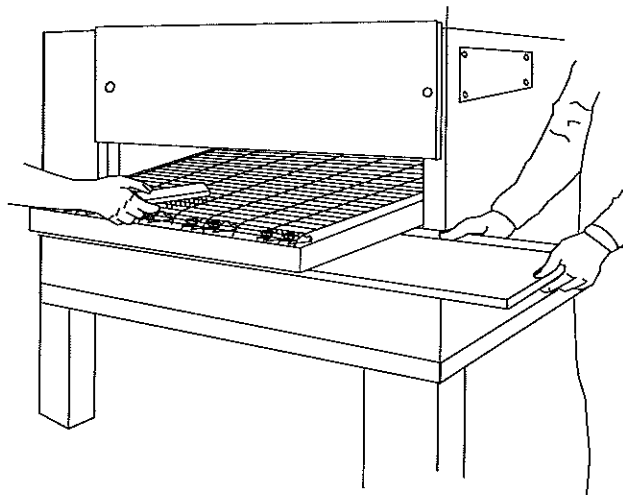

Figure 4-2. Conveyor Belt and Crumb Pan Cleaning
#### C. Conveyor Belt (Figure 4-2)
#### D. Crumb Pans (Figure 4-2)
Remove and clean the crumb pan at each end of the oven. Each crumb pan can be removed by sliding it out, as shown in Figure 4-2. Reinstall the crumb pans after cleaning.
1. Remove crumb pans as shown in Figure 4-2.